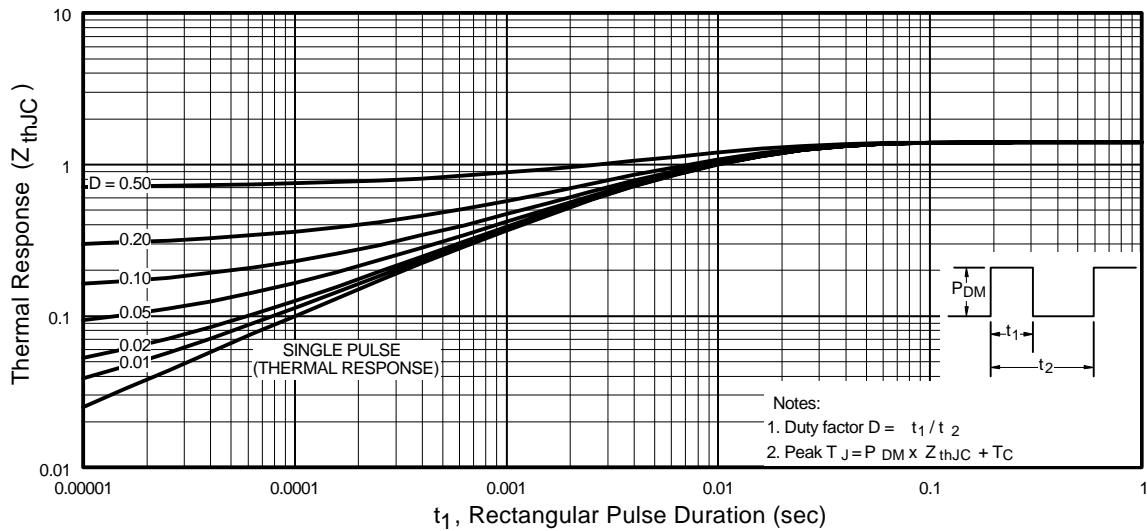

Fig 11. Maximum Effective Transient Thermal Impedance, Junction-to-Case
① Repetitive rating; pulse width limited by max. junction temperature. (See fig. 11)
② Starting $T_J = 25^\circ\text{C}$, $L = 14\text{mH}$